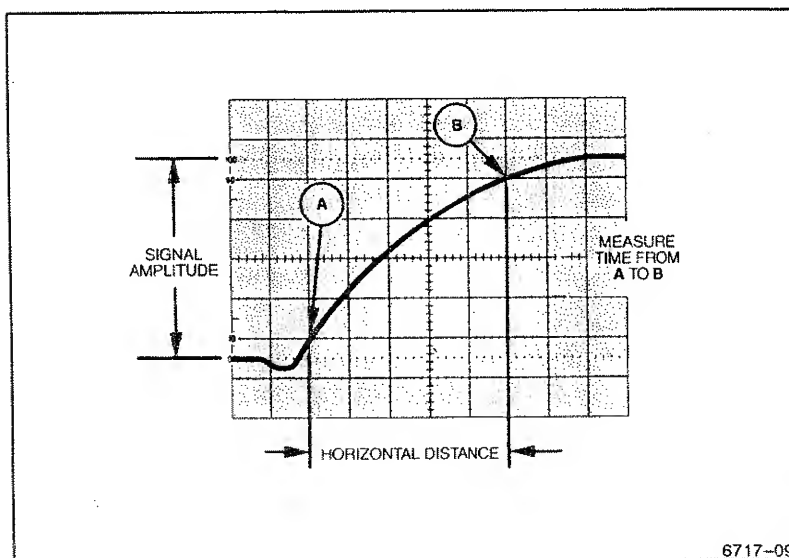

Figure 3-6. Measuring rise time.
4. Horizontally position the display so the 10% point on the waveform intersects the second vertical graticule line (Figure 3-6, Point A).
5. Measure the horizontal distance between the 10% and 90% points (Figure 3-6, Points A and B) and calculate time duration using the following formula:
**EXAMPLE.** In Figure 3-6, the horizontal distance between the 10% and 90% amplitude points is 5 divisions, and the SEC/DIV switch is set to 1  $\mu\text{s}$  per division. HORIZONTAL MAG is set to X1.